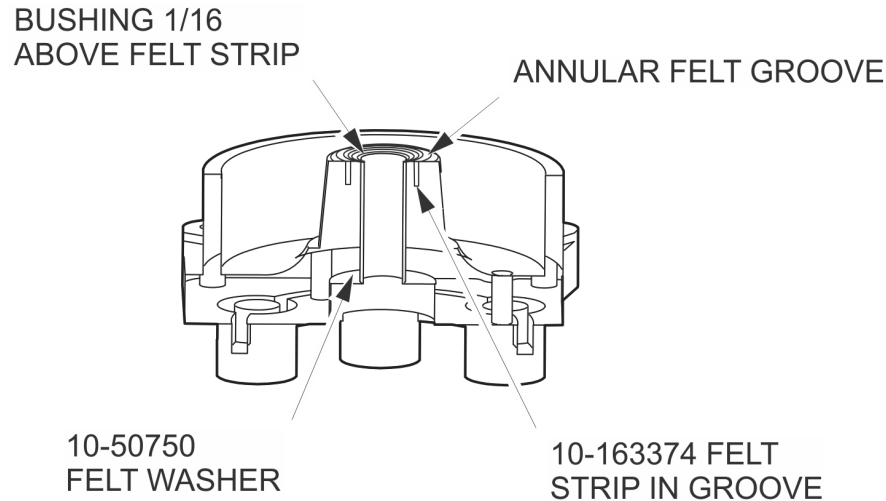

Figure 7-2. Distributor Block Cutaway
8. Install a new dry felt strip (23) in groove on electrode side of distributor block (21). When strip is properly installed (Figure 7-2), approximately 0.125 inch of the bushing shall be exposed above the felt strip.
9. Before installing new felt washer (20) into the distributor block (21), saturate the washer with 10-391200 Distributor Block Lubricant. Blot excess oil from the washer until the flat surfaces take on a “frosted” appearance, and seat the felt washer in the recess on the tower side of the distributor block.